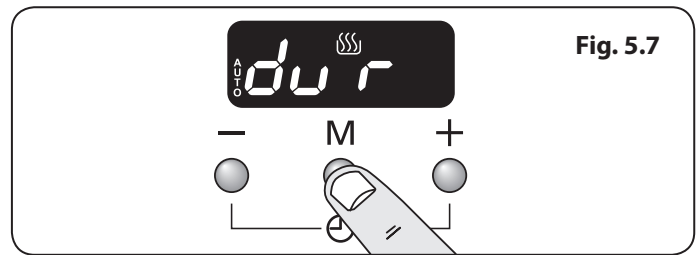

Fig. 5.7
- Press the mode [M] button until the display flashes 'dur' (**Fig. 5.7**). Then set the 'cook period' using the [+] or [-] buttons.